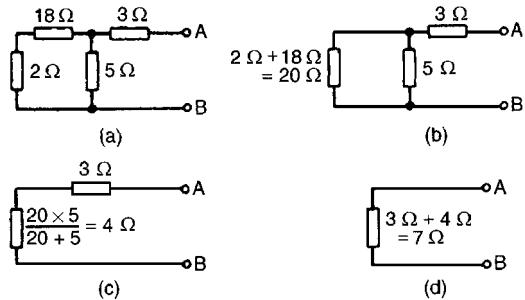

Figure 13.32
- (iv) The resistance ‘looking-in’ at terminals AB in Fig. 13.32(a) is obtained by reducing the circuit in stages as shown in Figures 13.32(b) to (d). Hence the equivalent resistance across AB is  $7\Omega$ .